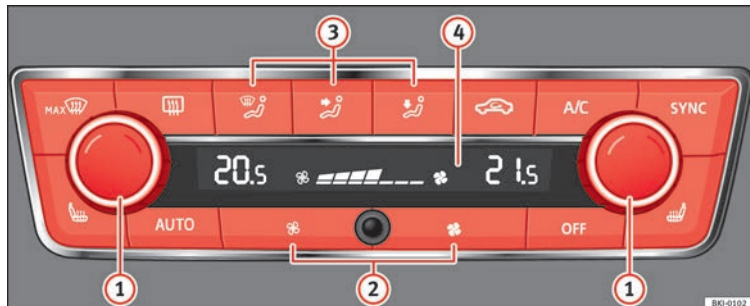

Fig. 172 Climatronic: controls.
- Adjust fan power to zero » **Fig. 172 ②** or press the **OFF** button.
- Press the button **AUTO** » **Fig. 172.**
- When you switch on the ignition, control **1** » **Fig. 172** can be used to set the required interior temperature.
- Press the button **MAX** » **Fig. 172**.